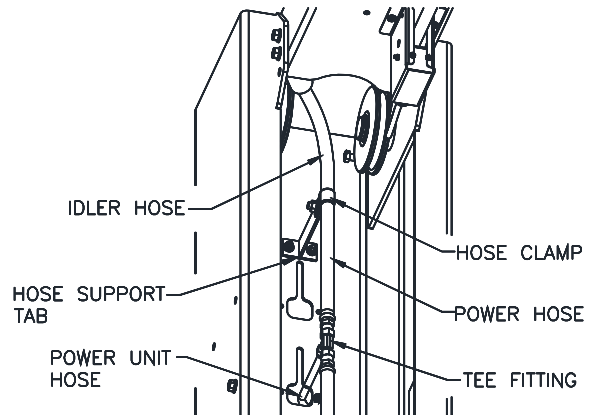

Fig. 16 – Power Side Hose Routing
- 42) Tighten the three hose fitting connections at the Tee taking care not to twist or change the lay of any hose. Install and tighten the "P" clamp on the power side to hold up the connection to the tee, see Fig 16.